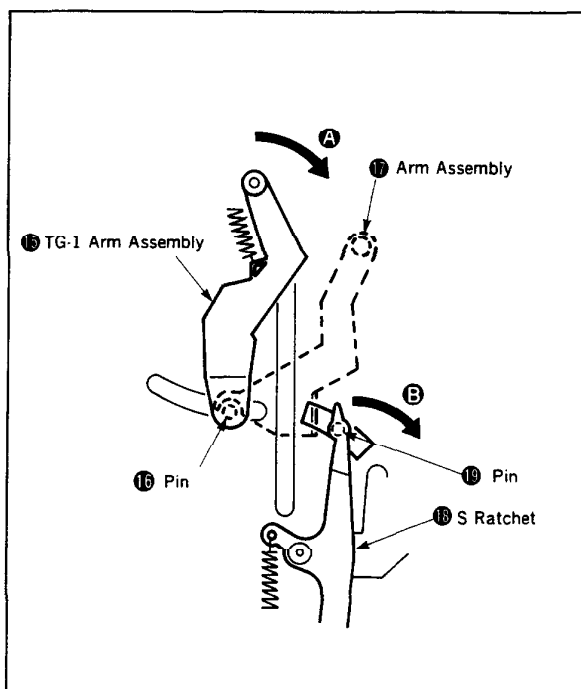

Fig. 17
- 4) Move the TG-1 arm assembly ① in a direction of the arrow **A** to put the pin ① into the concave of the arm assembly ①. (Fig. 17)
- 5) put the pin ③ of the S ratchet ③ into the right side the of the arm assembly ①. (Fig. 17)